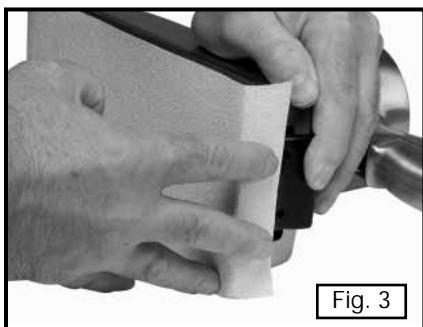

Fig. 3
2. Stretch the abrasive sheet tightly over the pad (Fig. 3), and bend up over the pad edge.